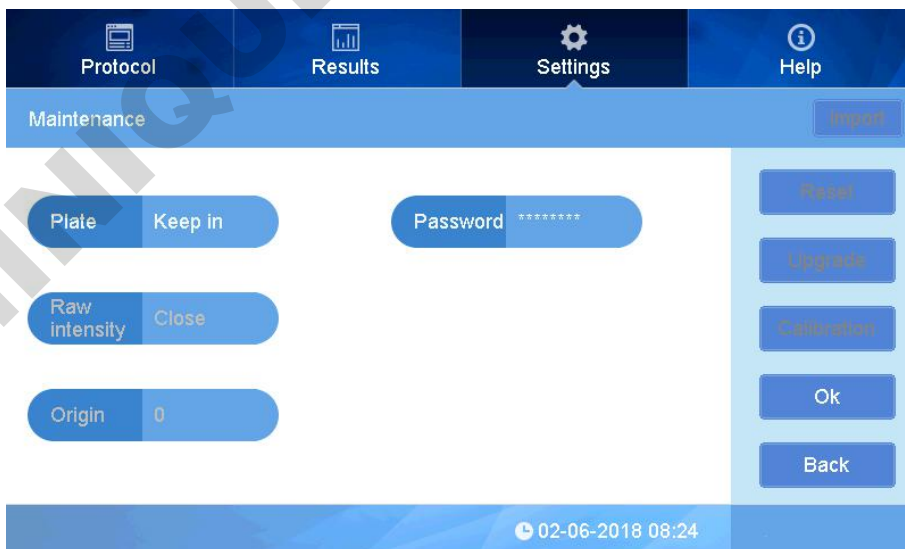

fig 50
- Click “Maintenance” to enter into interface(Fig 50).